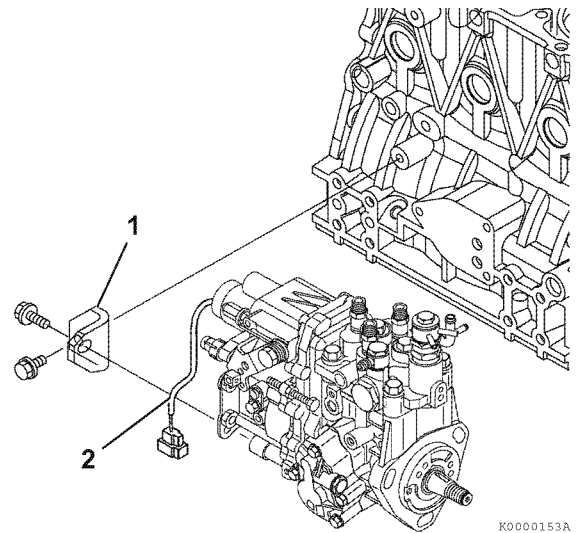

Figure 7-11
12. Separate the stop solenoid wiring connector (2, **Figure 7-11**).
13. Remove the rear fuel injection pump bracket(s) (1, **Figure 7-11**) from the fuel injection pump.